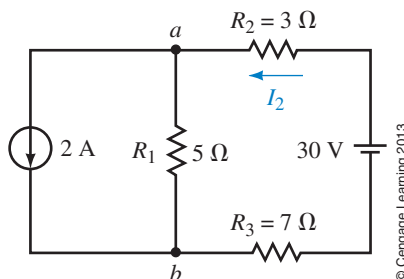

FIGURE 8–73
13. Refer to the circuit of Figure 8–74: